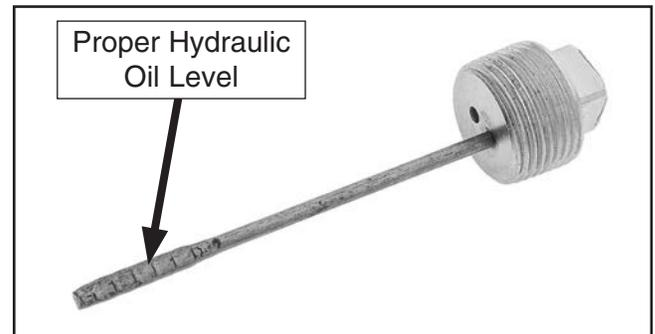

Figure 49. Location of correct hydraulic fluid level on dipstick.
- If fluid level is near *middle* of dipstick (see **Figure 49**), no fluid needs to be added.